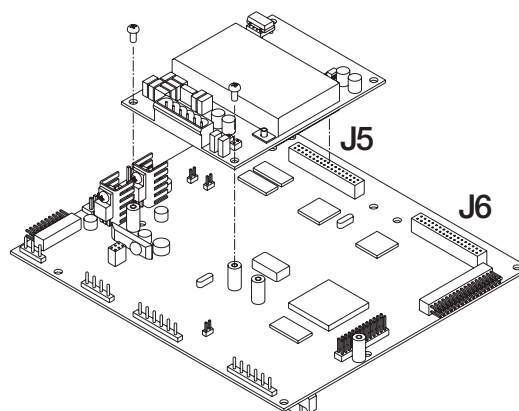

Figure 5-10. Installing Option Card Onto CPU Board
2. Carefully align the large option card connector with connector J5 or J6 on the CPU board (see Figure 5-10). Press down to seat the option card in the CPU board connector.
3. Use the screws provided in the option kit to secure the other end of the option card to the threaded standoffs on the CPU board (see Figure 5-10).